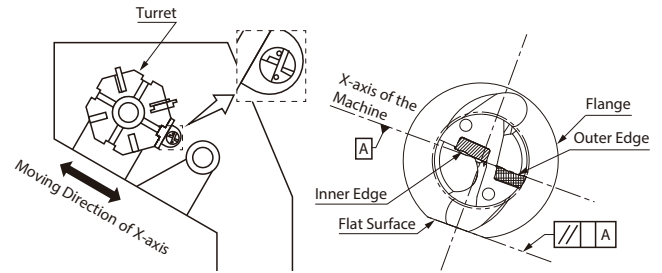
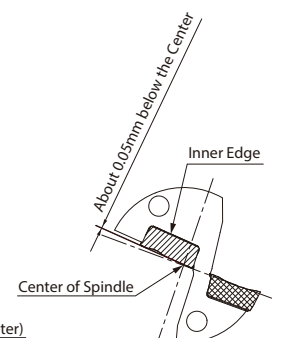

Fig.5 Installed into the Lathe
Fig.9 Front View of the Drill
2. It is recommended to set the outer insert as shown in Fig. 5 with the outer insert facing the operator. (Fig. 5)
When installing inner insert as shown in Fig. 5, it will be set around 0.05 mm below the centre of spindle. (Fig. 9)